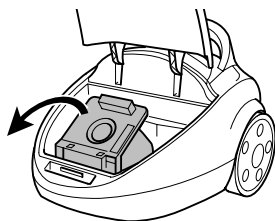

Fig. 19
3. Pull the dust filter bag holder up and out together with the dust filter bag (Fig. 19).